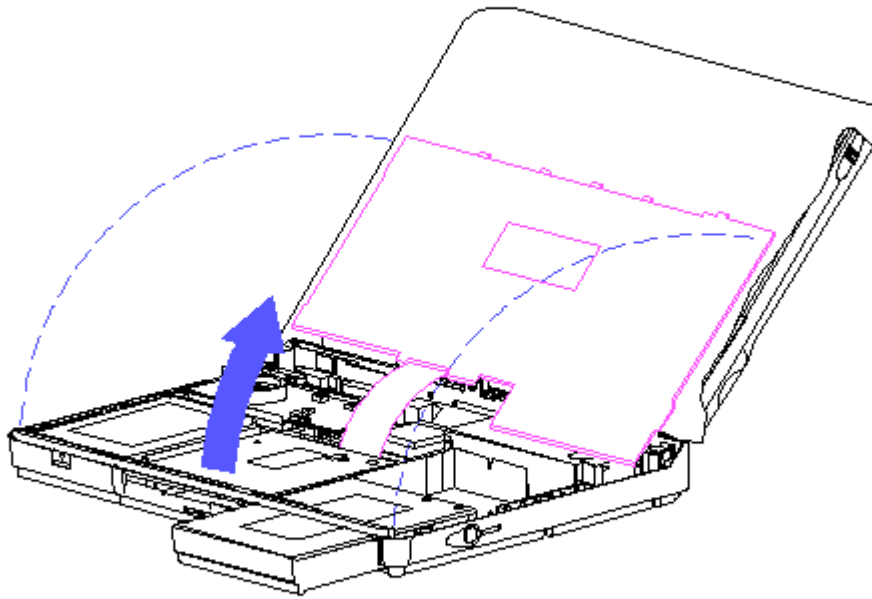

Figure 4-31. Laying the Keyboard on the Display
6. Rotate the front edge of the keyboard up and lay it face-down on the cloth-covered display panel (Figure 4-31).